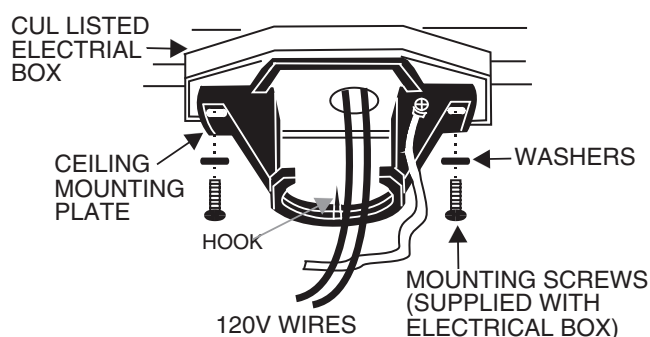

FIGURE 6
3. Pass the 120-volt supply wires through the center hole in the ceiling hanger bracket as shown in Fig. 6.